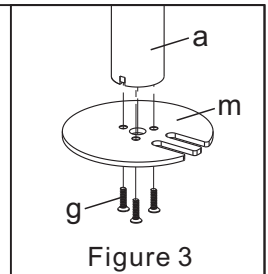

Figure 3
1. Install the Grommet Base Plate(m) to the Pole(a) using 3pcs M5x14 Bolts(g), and tighten using the Allen Key(o), see Figure 3.